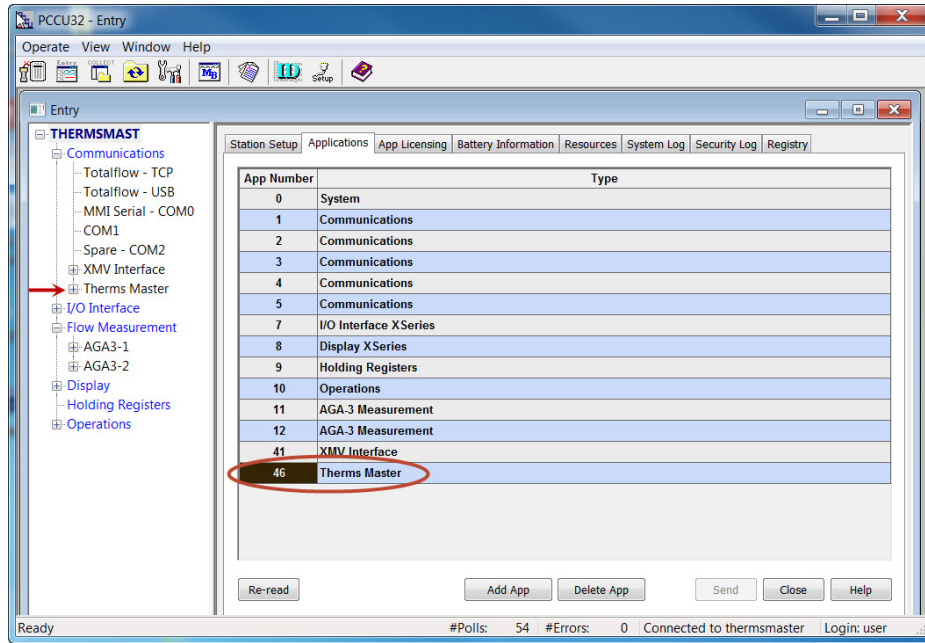

Figure 22. Verify Therms Master is added
- 7) Click re-read to verify the application has been added and it now appears in the application list associated with the correct application number (see Figure 22). The application is also added to the configuration tree view on the left and should be added under the “Communications” tree view item.